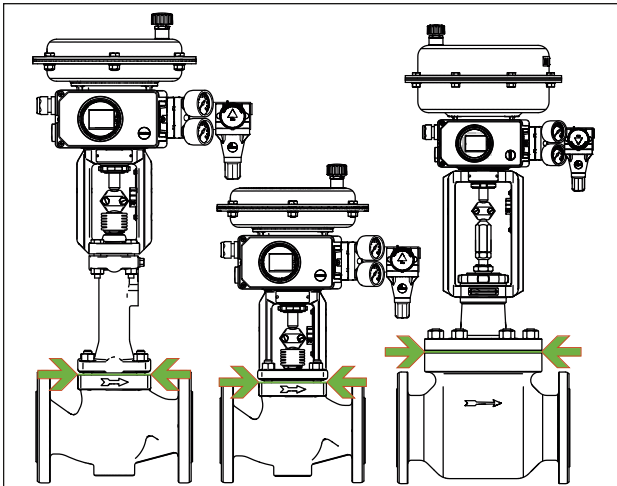

Fig. 15: Limit of insulation for control valves (example shown)
- ⇒ Only insulate control valves up to the bonnet flange of the valve body (see Fig. 15). This also applies to versions with bellows seal or insulating section at medium temperatures below 0 °C or above 220 °C. If the insulating section is insulated, it will not function properly.